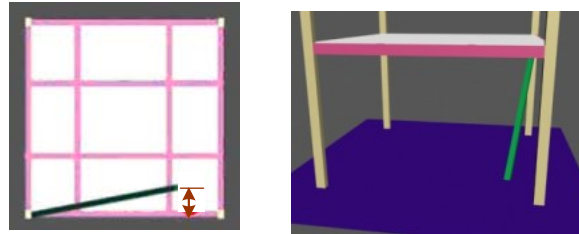

Figure 11. External wall bracing.
4.8.2 If on the vertical cross-section, some material inside the building is too close to the external wall, it is considered to be bracing for that wall (refer to Figure 11). This is decided based